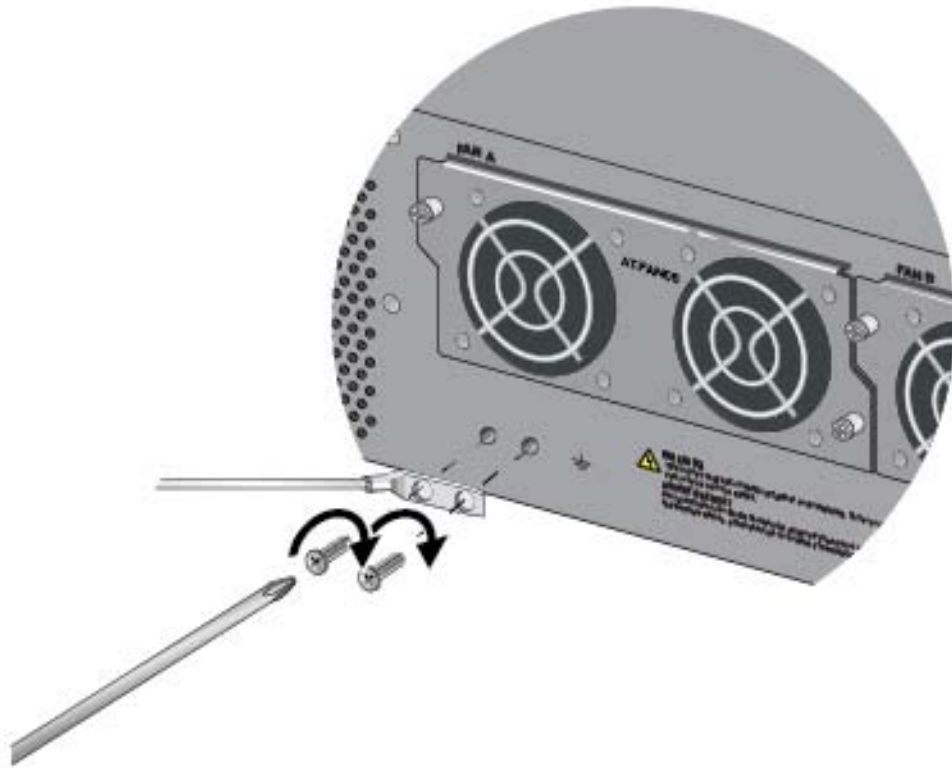

Figure 26. Installing the Grounding Lug and Wire
4. Install the grounding lug on the rear panel of the chassis. Refer to Figure 26 on page 60.